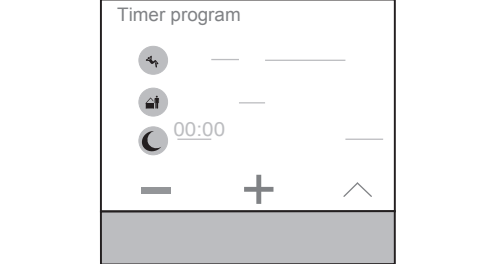

Figure 13: Setting the switching time
- The display changes for setting the switching time (figure 13).